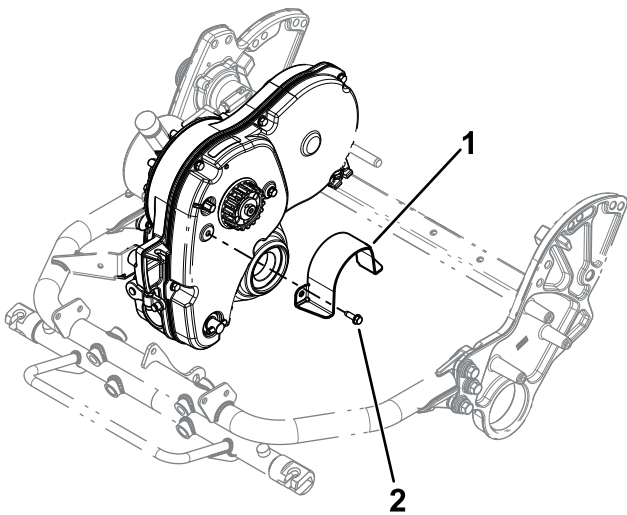

Figure 1
6. Remove the existing coupler guard from the transmission cover (Figure 1).